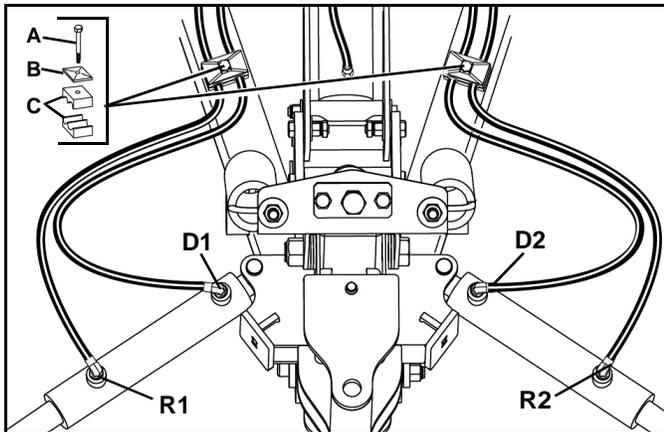

Figure 1-11
11. Loosely connect hydraulic hoses to the wing cylinders. (See Figure 1-11).